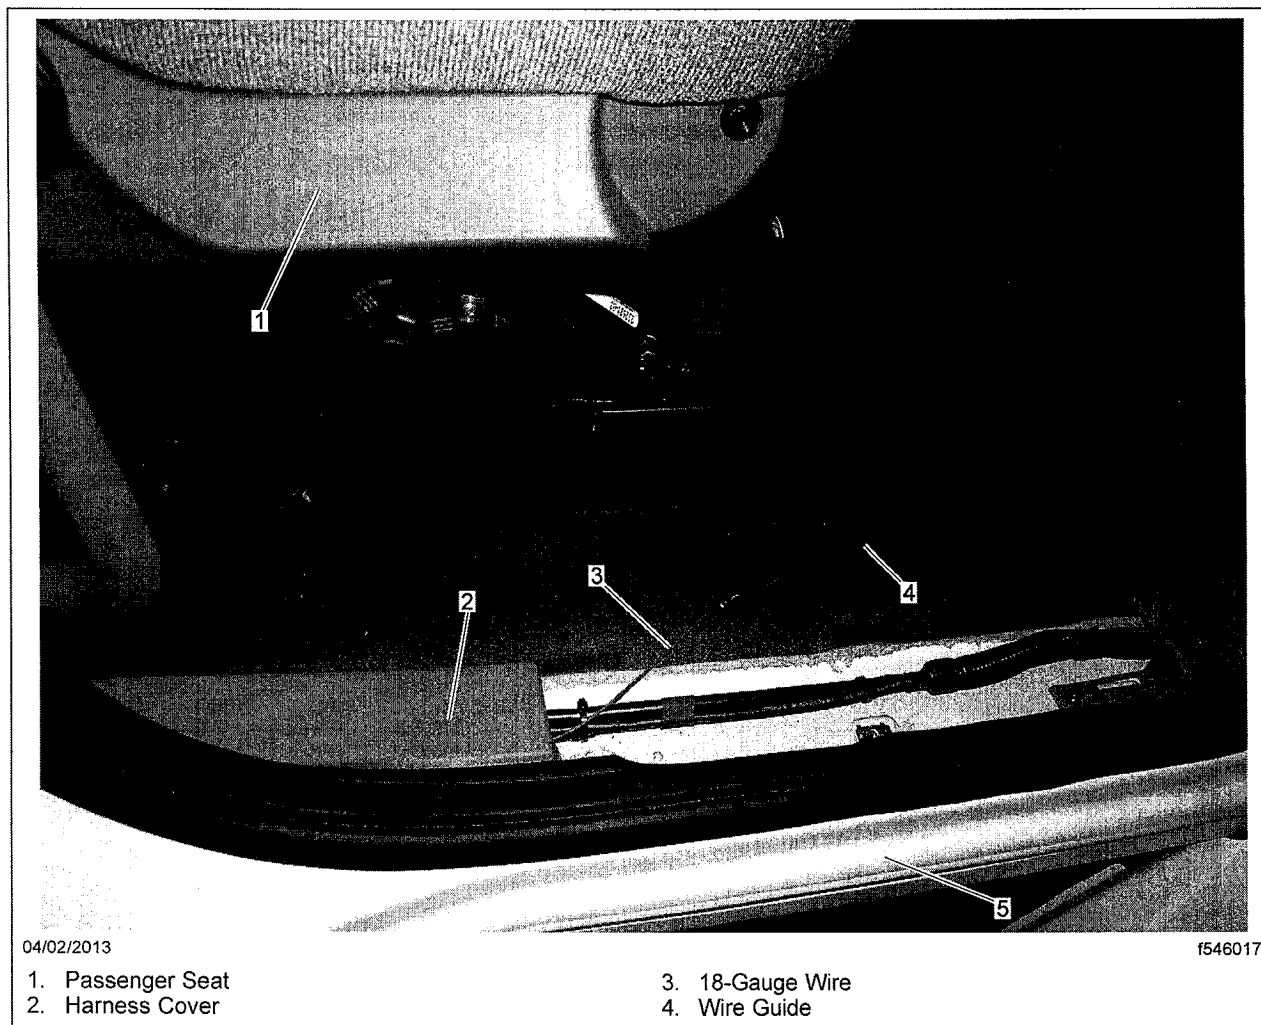

Fig. 8, Passenger-Side Wire Routing (tread plate removed)
- 11.2 On Sleepercabs, route the wire behind the passenger side B-pillar panel and under the harness cover using fish tape or a wire guide. See **Fig. 8**.